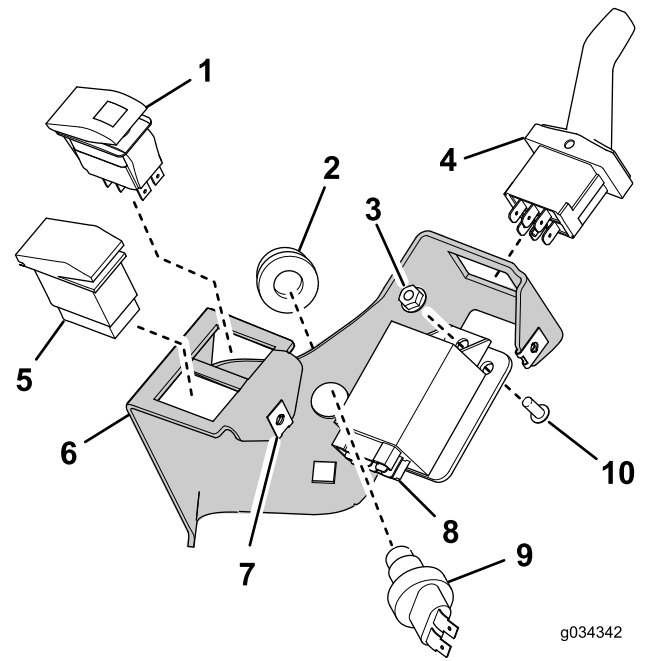

Figure 12
1. Install the components as shown in Figure 12.